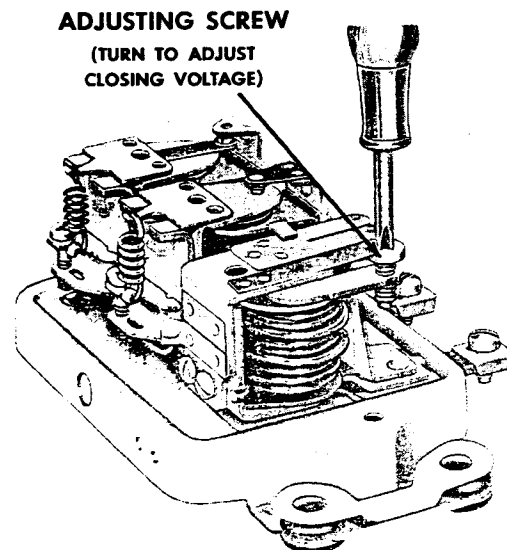

Figure 12—Adjustment of cutout relay closing voltage.
- Adjust closing voltage (either method) by turning adjusting screw (Fig. 12). Turn screw clockwise to increase setting and counterclockwise to decrease setting.